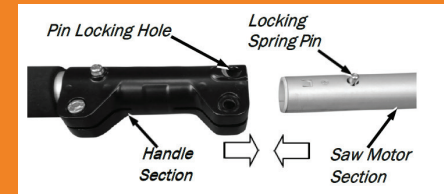

Figure 1a
1. Align the Locking Spring Pin at the end of the Saw Motor Section and the Pin Locking Hole in the Handle Section (**Figure 1a**).